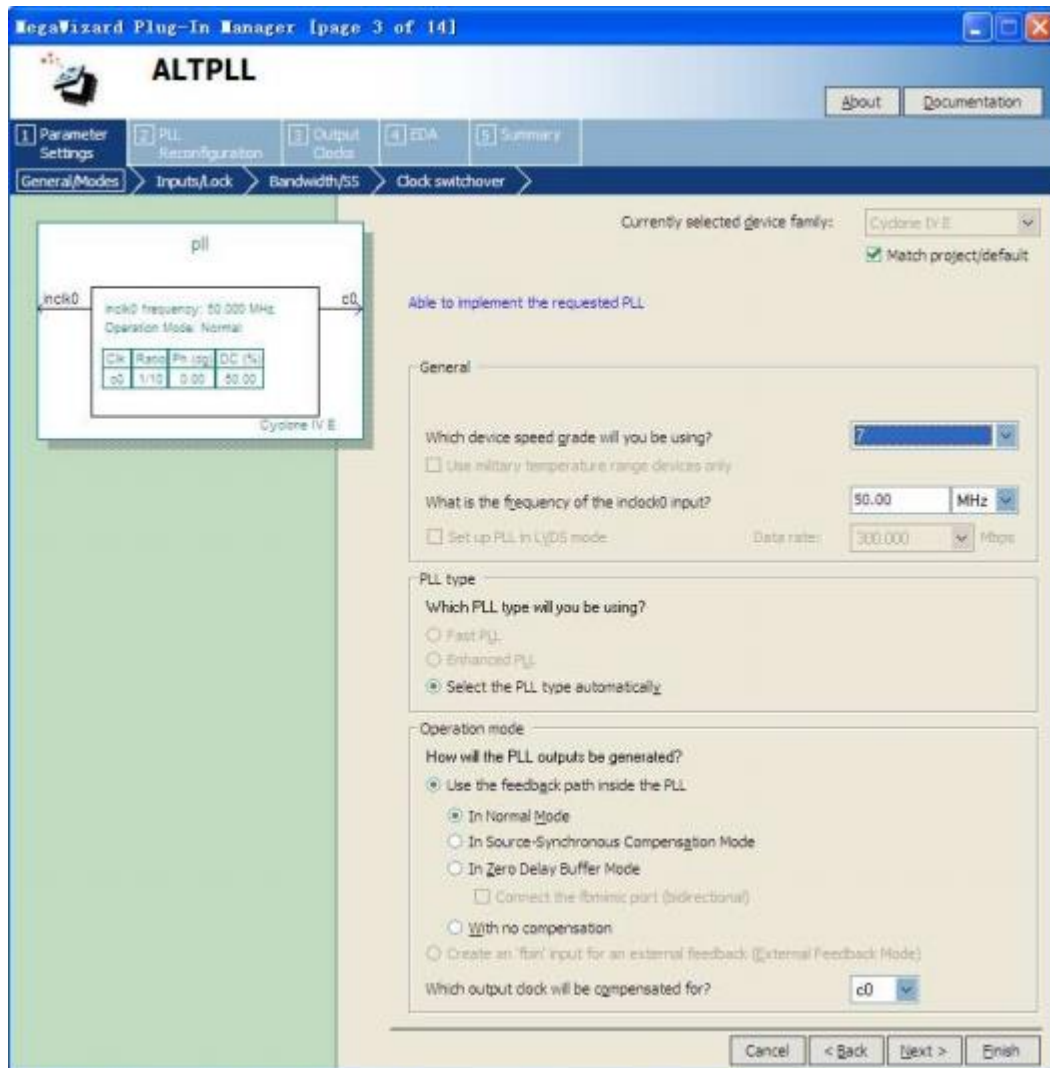

Figure 3-10 MegaWizard Plug-In Manager [page 3 of 14] Selections
5. In the MegaWizard Plug-In Manager [page 3 of 14] window, make the following selections (see **Figure 3-10**).